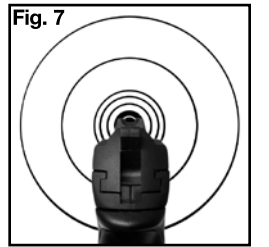

Fig. 7
- The airgun is correctly aimed when the front sight blade is positioned exactly in the center of the notch of the rear sight. The top of the front sight blade should be even with the top of the notch in the rear sight. The bulls-eye should appear to rest on the top of the front sight (fig. 7).